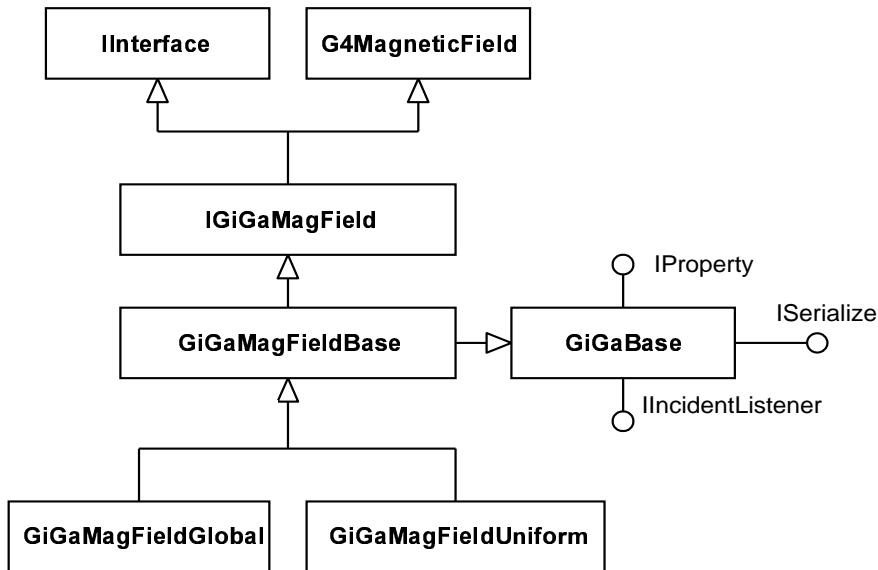

Figure 4.2: The class diagrams for **GiGaMagField** classes
**GiGA** provides the possibility of instantiation of such objects using abstract factories approach. To get this behaviour the intermediate abstract interface **IGiGaMagField** is defined by merging **G4MagneticField** and **IInterface** interfaces. Then one could reuse the standard approach of abstract factories to instantiate such objects. The simplified class diagrams are shown on figure 4.2.